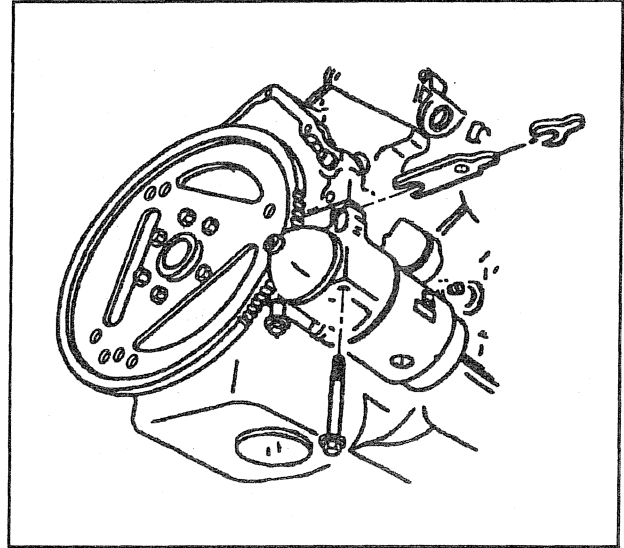

Figure 11—Shimming Gas Engine Starter Motors
8. When shimming is done, tighten the mounting bolts (figure 11).